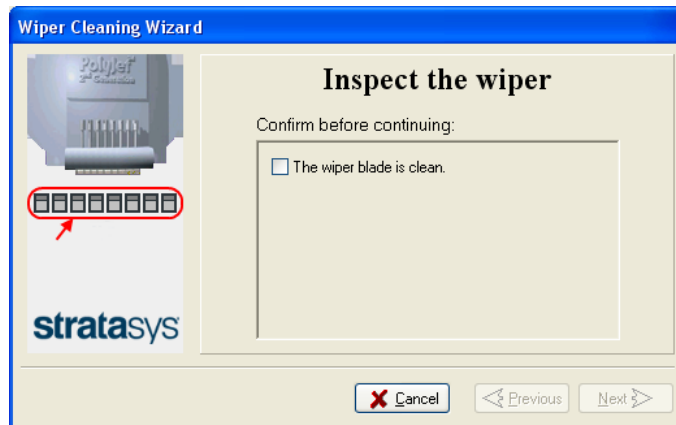

Figure 6-31 Wiper Cleaning wizard during steps 6–10
10. In the wizard screen (see Figure 6-31), confirm that the wiper blade is clean, and click **Next**.